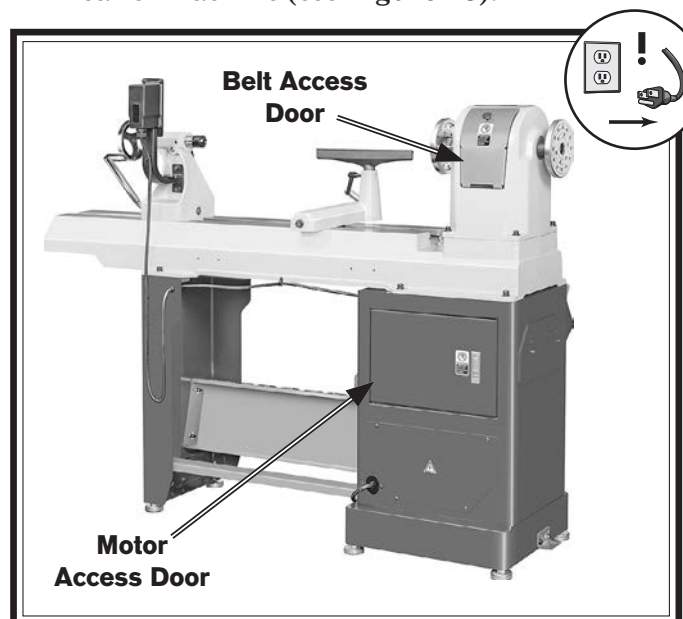

Figure 26. Belt and motor access locations.
2. Open belt access and motor access doors on rear of machine (see **Figure 26**).